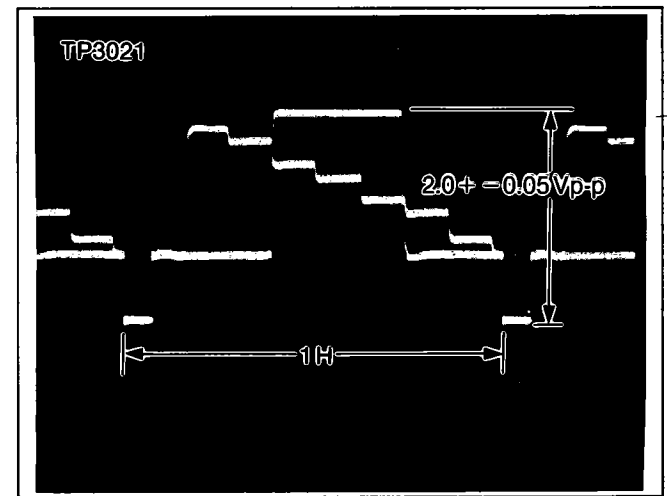

Figure E23
6. Adjust VR302 until the luminance level is 2.0 +/- 0.05Vp-p as shown in Figure E23.